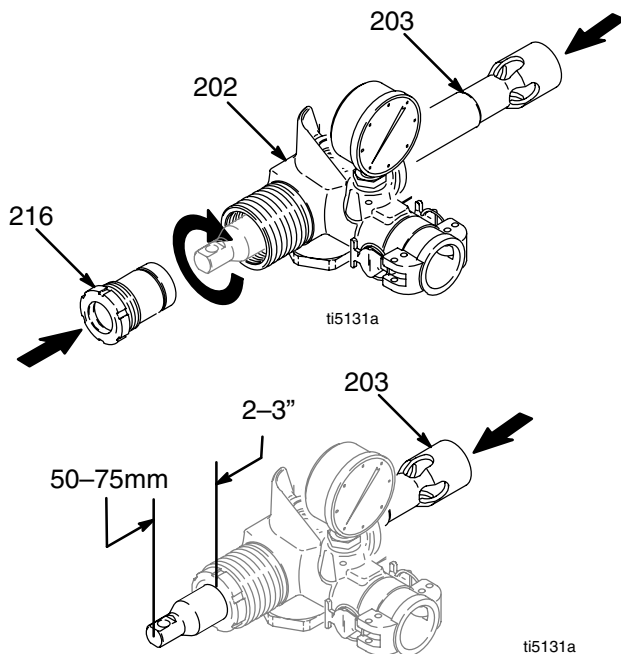

Fig. 16
1. Fig. 16. Push piston rod (203) out of pump (31) 50 to 75 mm (2 to 3 inches).
2. Fig. 16. Install packing nut (216). Hand tighten and then tap with screw driver. Push piston rod (203) into outlet housing (202) and extending 50 – 75 mm out of outlet housing.